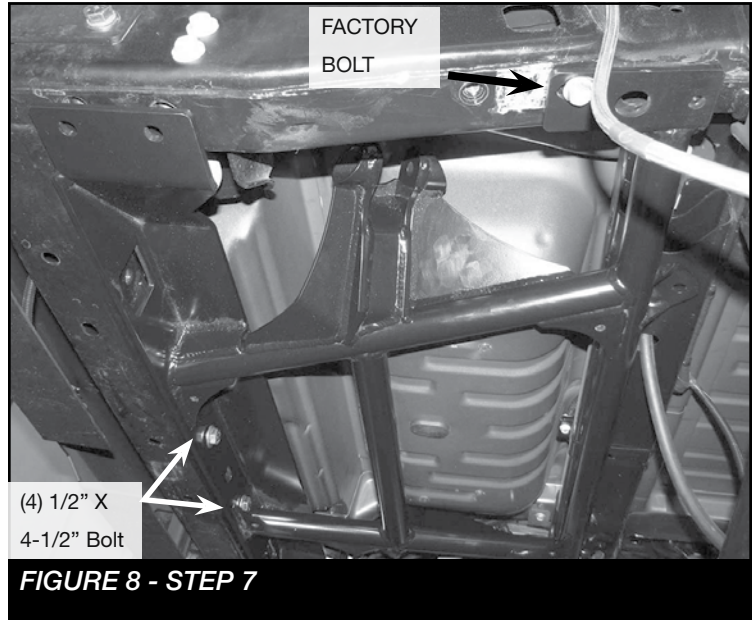

FIGURE 8 - STEP 7
- Using the help of another person, install FT50426BK (Sub-Frame) using 2 factory bolts removed from the sway bar bracket attached to the frame and the 1/2" X 4-1/2" hardware. Install the factory bolt where the sway bar was attached. **SEE FIGURE 8.** Install the 1/2" hardware on the rear of the new sub-frame and through the frame. Leave hardware loose.